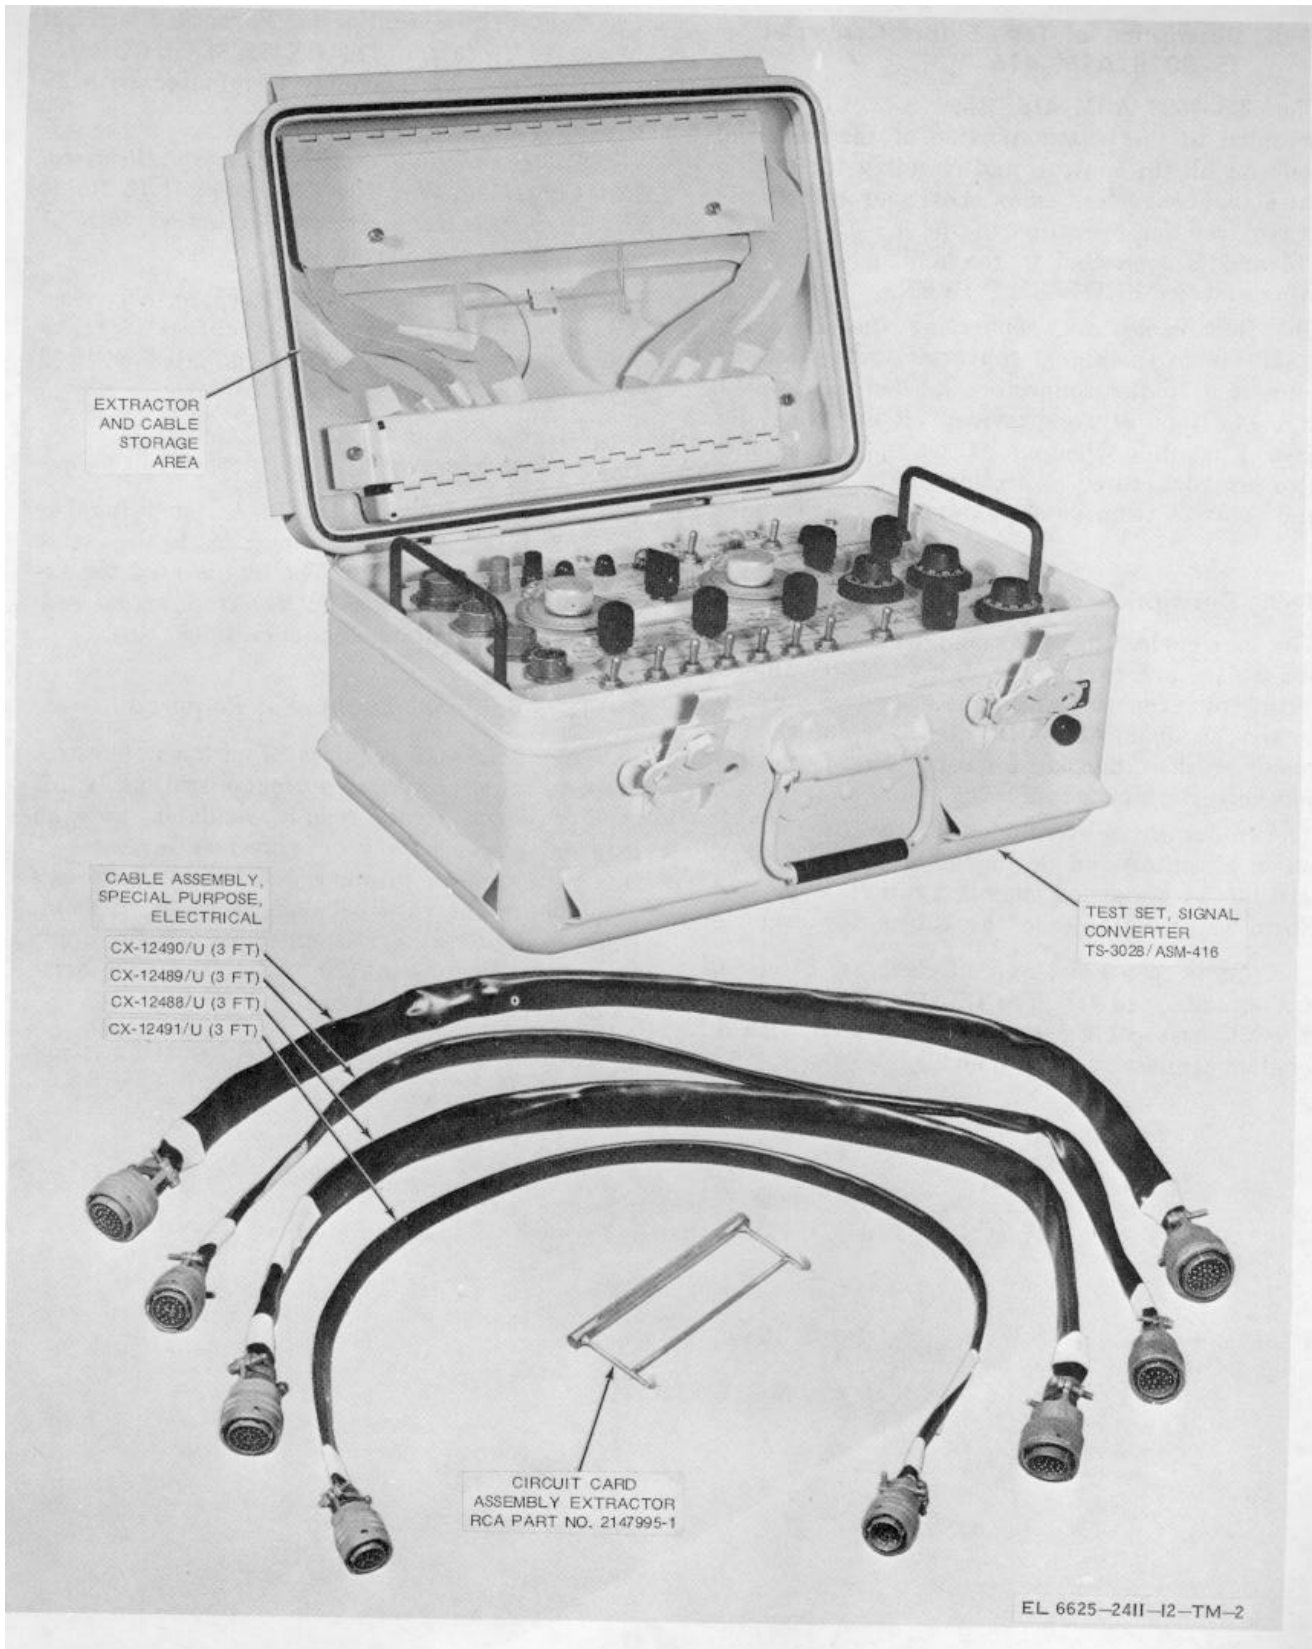

Figure 1-2. Test Set, Signal Converter AN/ASM-416 components.
The AN/ASM-416 (fig.1-2) is portable, externally powered, and provides signals for completely testing Converter, Signal Data CV-2807 (V)/ASH-19, CV-2808(V)/ASH-19, and CV- 2809/ASH-19. The equipment is self-contained, except for an external power source of 28 vdc, which is not supplied with this equipment. The case is of ruggedized aluminum construction and contains Test Set, Signal
The TS3028/ASM-416 (fig.1-2) is screw mounted to the bottom portion of the case and contains all the controls and circuitry for testing the signal converter. An external source of 28 vdc is required for operation of the TS-3028/ASM- 416 and is connected to the red and black terminals labeled PRIMARY POWER.
The four cables (fig.1-2) supplies with the AN/ ASM-416, are each three feet long, terminated with a pin plug (male) on one end for connection to the TS-3028/ASM-416, and a receptacle (female) on the other end for connection to the signal converter under test.
The extractor (fig.1-2), RCA part number 2147995-1, is held by retaining clips to the inside of the AN/ASM-416 lid. The tool is used for extracting circuit card assemblies from signal converters during maintenance operations.